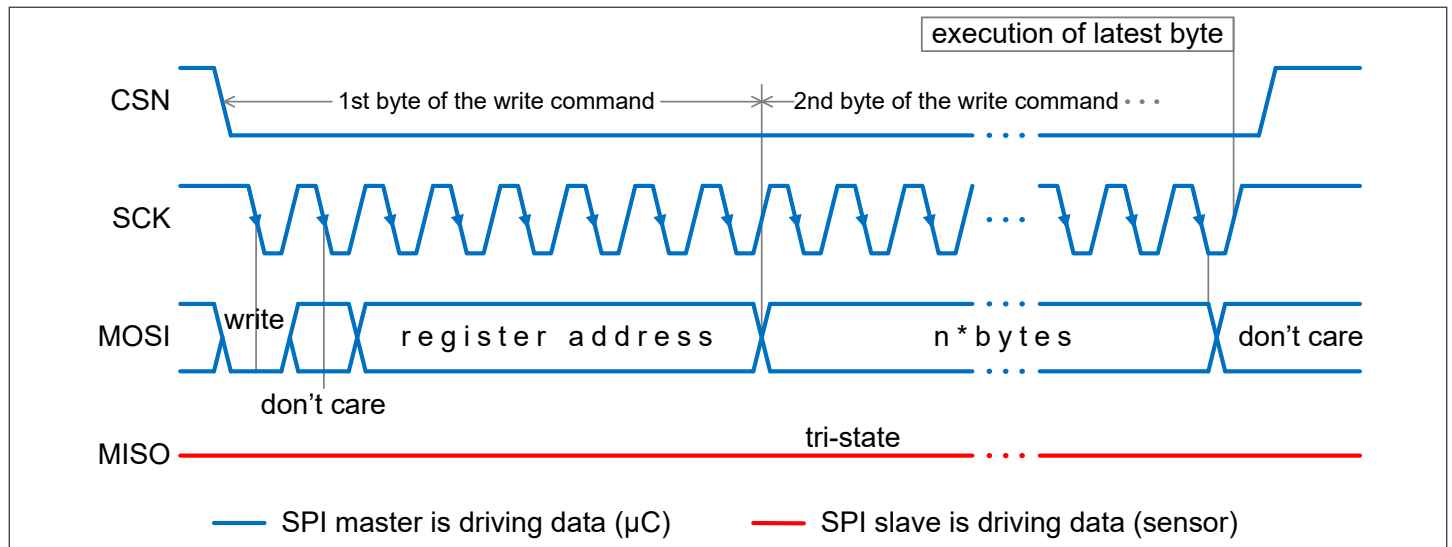

Figure 13 Write frame format: Write data from microcontroller to sensor
- The input data are executed in the sensor after each data byte, see Figure 13.
See Figure 13